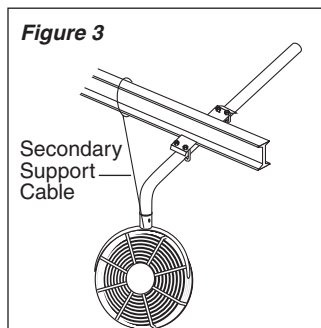

Figure 3
3. Wrap the other end of the Cable around a secure building joist, truss, I-Beam or other support near the Fan. Do not attach cable to I-Beam mount pipe. (Figure 3) Take up all excess slack in the Cable.